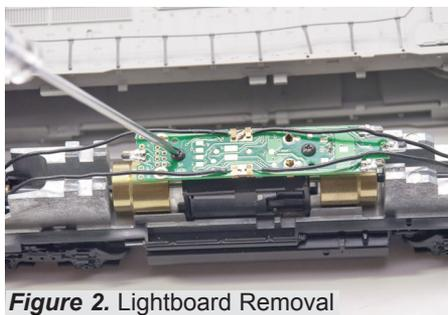

Figure 2. Lightboard Removal
3. Unscrew the two screws securing the lightboard and lift it from the frame. (**Figure 2**)